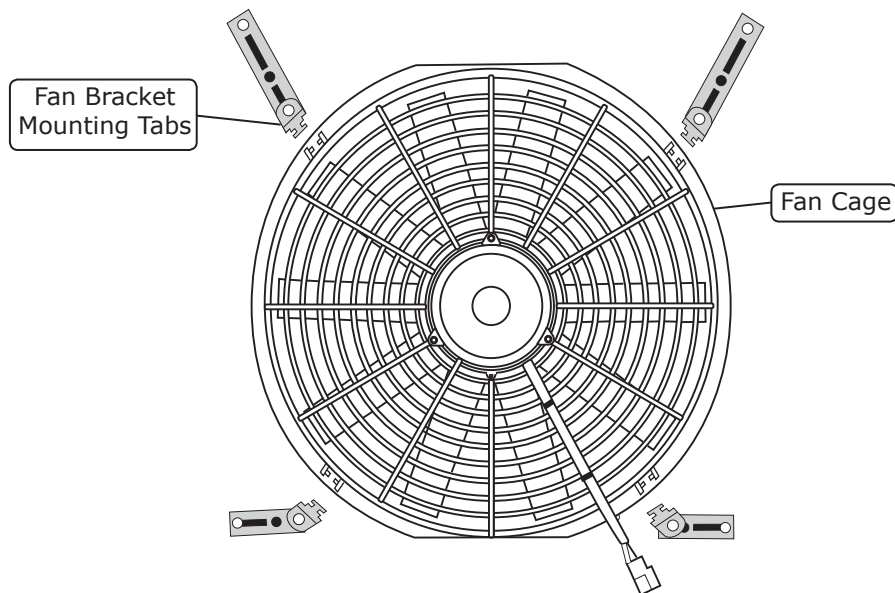

Figure 1
1. Secure the fan bracket mounting tabs to the fan by sliding the tabs into place on the fan cage (See Figure 1, below).